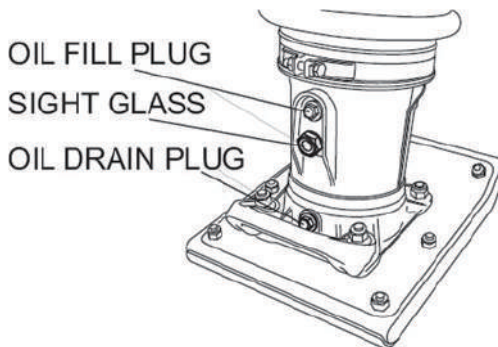

Figure 14 Foot Housing Drain Plug
- Drain oil reservoir on foot housing (Figure 14). Refill with approximately 1000cc of MOBIL ISO VG-46 or other oil with same standard. Oil should be midway in sight glass. Break in oil should be changed after first 50 hours.